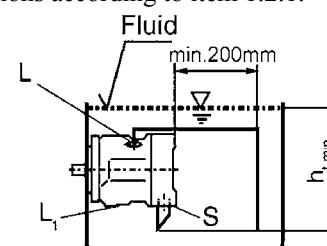

Fig. 3
a) If the minimum fluid level is above the top of the pump, port "L¹" closed, "L" and "S" should remain open, L piped and recommendation S piped (see Fig. 3)